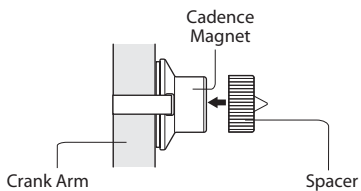

Fig. 11
- Step 5:** Slide and rotate the sensor until the alignment mark just touches the spacer tip on the magnet. (Fig. 11)